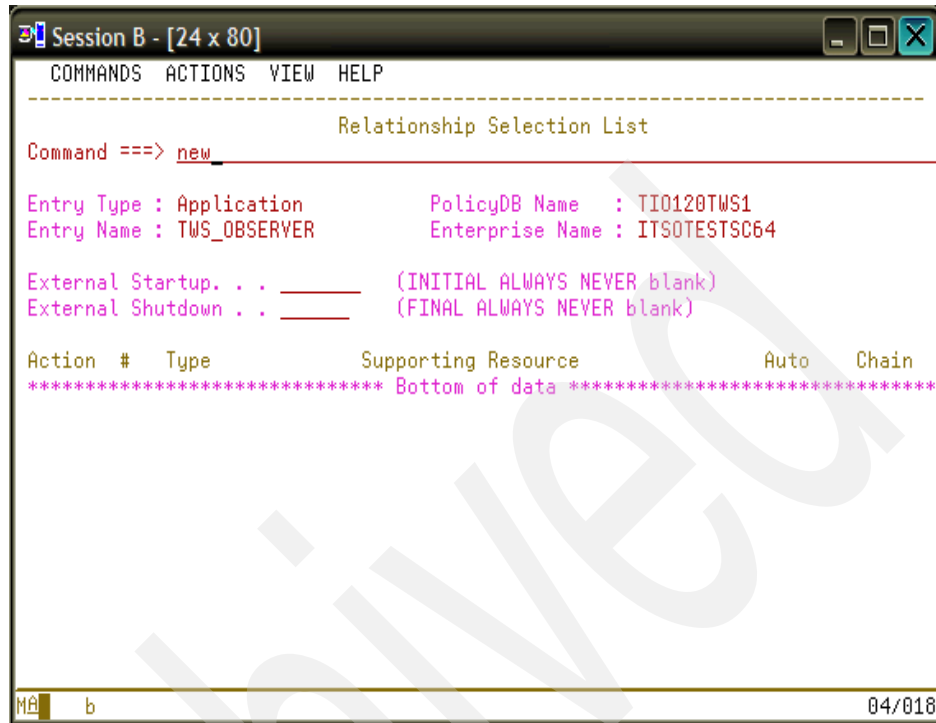

Figure 4-40 Relationship Selection List for z/OS status observer
4. Place an s in the Action column next to RELATIONSHIPS on the Policy Selection panel. The Selection List panel that is shown in Figure 4-40 on page 146 displays.